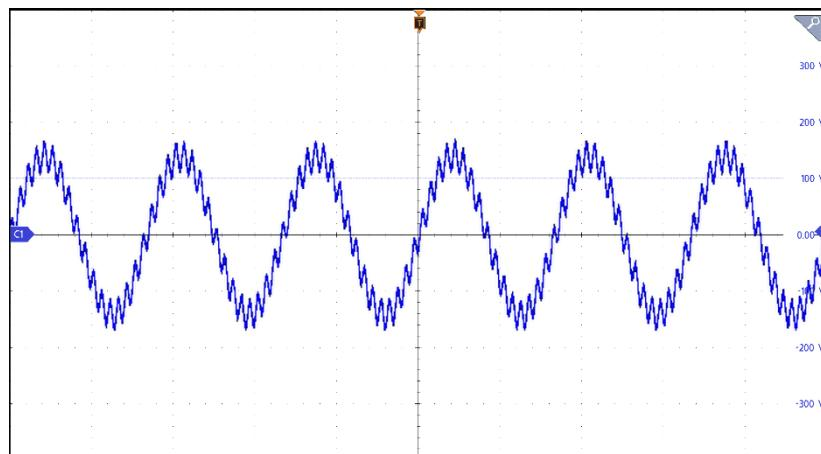

Figure 5-33 Interharmonic Mode Setting Page (Example Output Waveform for Phase 1)
6. After setting the parameters, tap the Home key **Home**, then tap **TRIG ON** to trigger the output. The output waveform is shown in Figure 5-33.